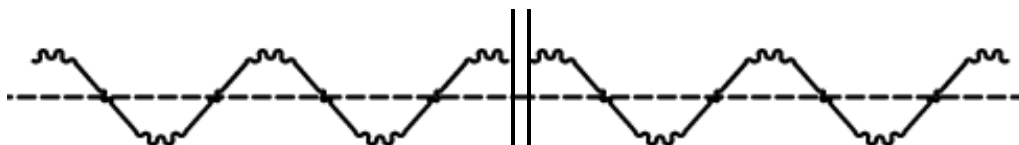

Fig. 6 – Maximum end-to-end gap is 1-3/16" for HD Perf.
12. Continue adding SuperWave Supports as installation of flooring moves toward center of bin. **NOTICE:** Ensure that supports stay centered on floor lines. **For Heavy-Duty Perforated flooring there can be 1-3/16" end-to-end gaps between SuperWave supports as shown in Fig. 6. Each rib of floor plank must be supported.** If installing long planks – 30 feet or longer – have three people putting each plank into place, one near each end and one in middle. If planks are 40 feet long, a fourth crew member will be helpful.